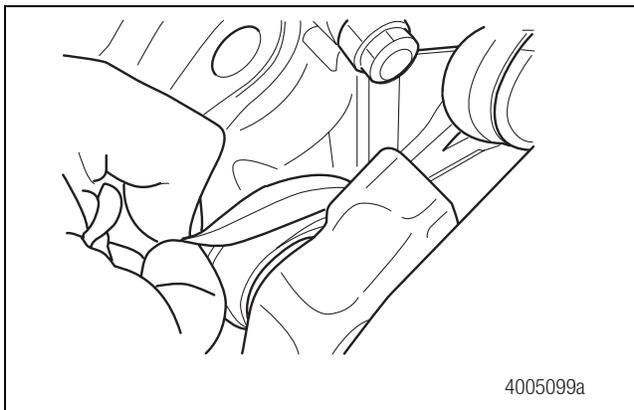

Figure 5.28
4. Verify that the slide pin boots are correctly located on both the carrier and housing retainers. Figure 5.28.